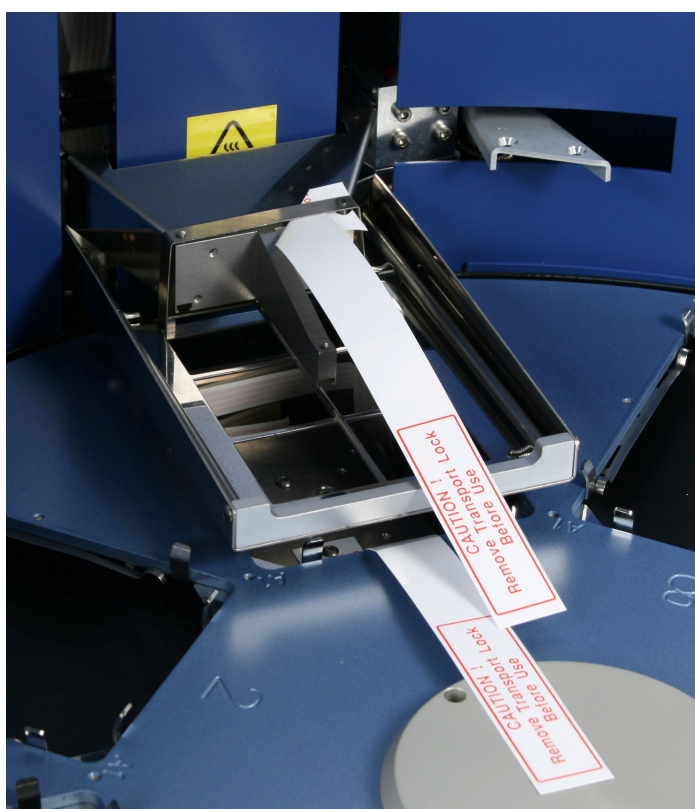

Fig. 5.26 Both transport locks refitted
5. The transport lock of the heating block is refitted according to Fig. 5.22. Screw the transport lock screw clockwise (Fig. 5.22). Fig. 5.26 shows both the transport locks refitted.
Fig. 5.26 shows both the transport lock of the heating block and the tip comb holder refitted.